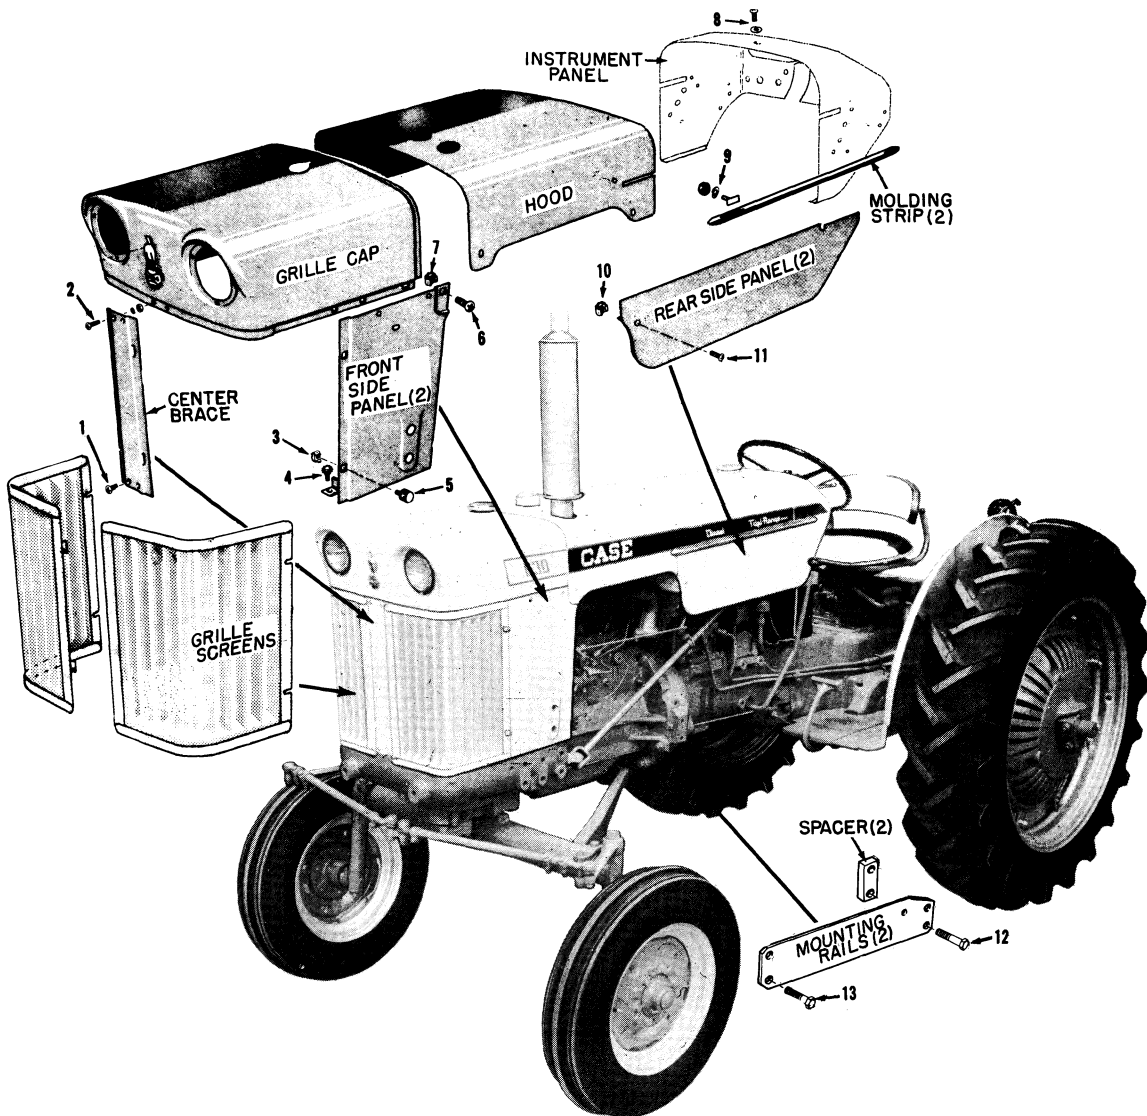

Fig. A-7 Sheet Metal Fasteners Location
2. Remove "Phillips" head bolts as shown, Fig. A-7.